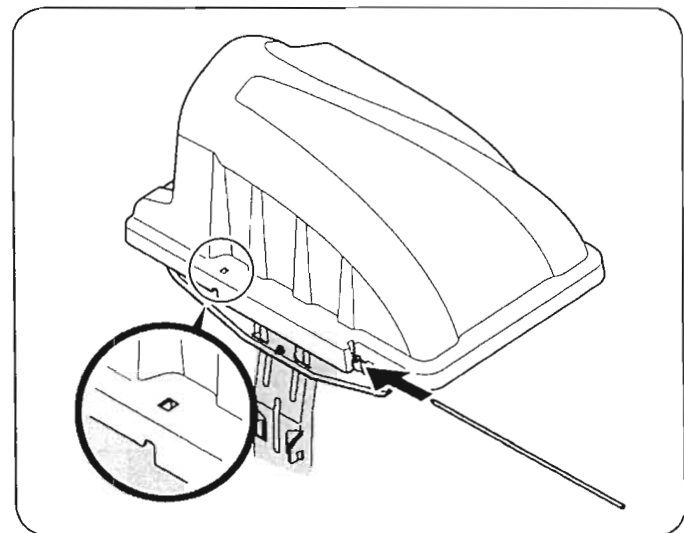
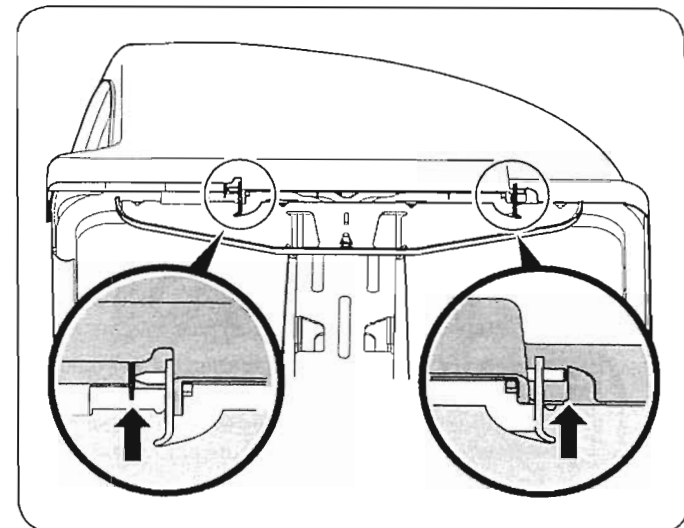

Figure 4-15
Figure 4-16
6. Slide the hinge pin into the hole located on the mounting tab, as in Fig. 4-15. Use the cut-out window (See inset in Fig. 4-15) to line up the hinge pin on the other side and push pin all the way in until it reaches the end-stop. At this point the pin clips into place and is secured by a tab in the bagger cover. See Fig. 4-16.